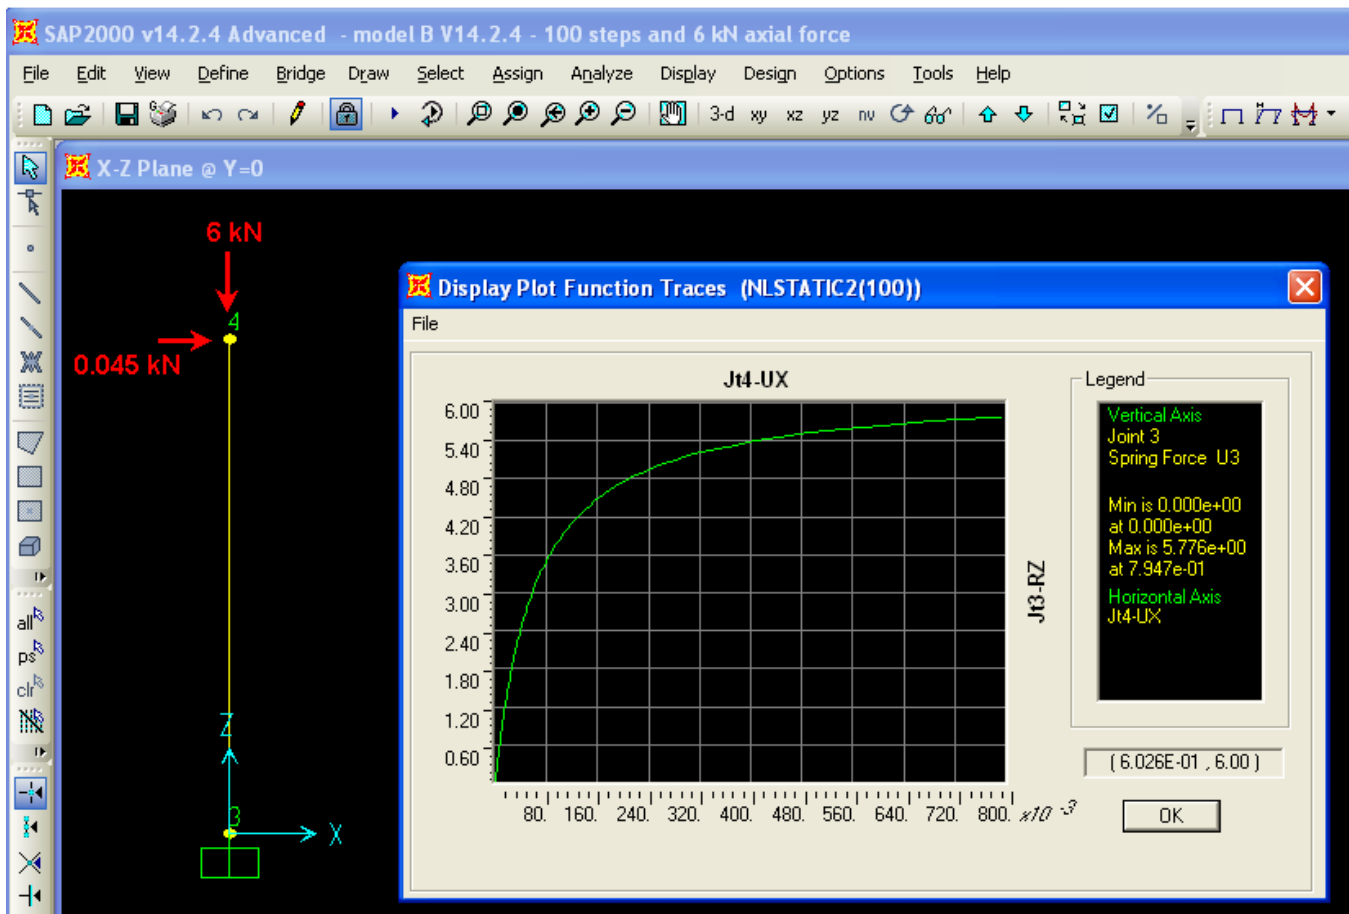

Figure 1 - Nonlinear buckling analysis of a column
- Since the deflections, forces, and reactions of linear buckling analysis correspond to the normalized buckled shape of a structure, users must run Nonlinear buckling analysis to obtain the actual displacements, forces, and reactions. Figure 1 illustrates the Nonlinear-buckling-analysis output of a column subjected to an initial imperfection where lateral load induces displacement equal to 0.6% of column height. Softening behavior indicates the onset of buckling.